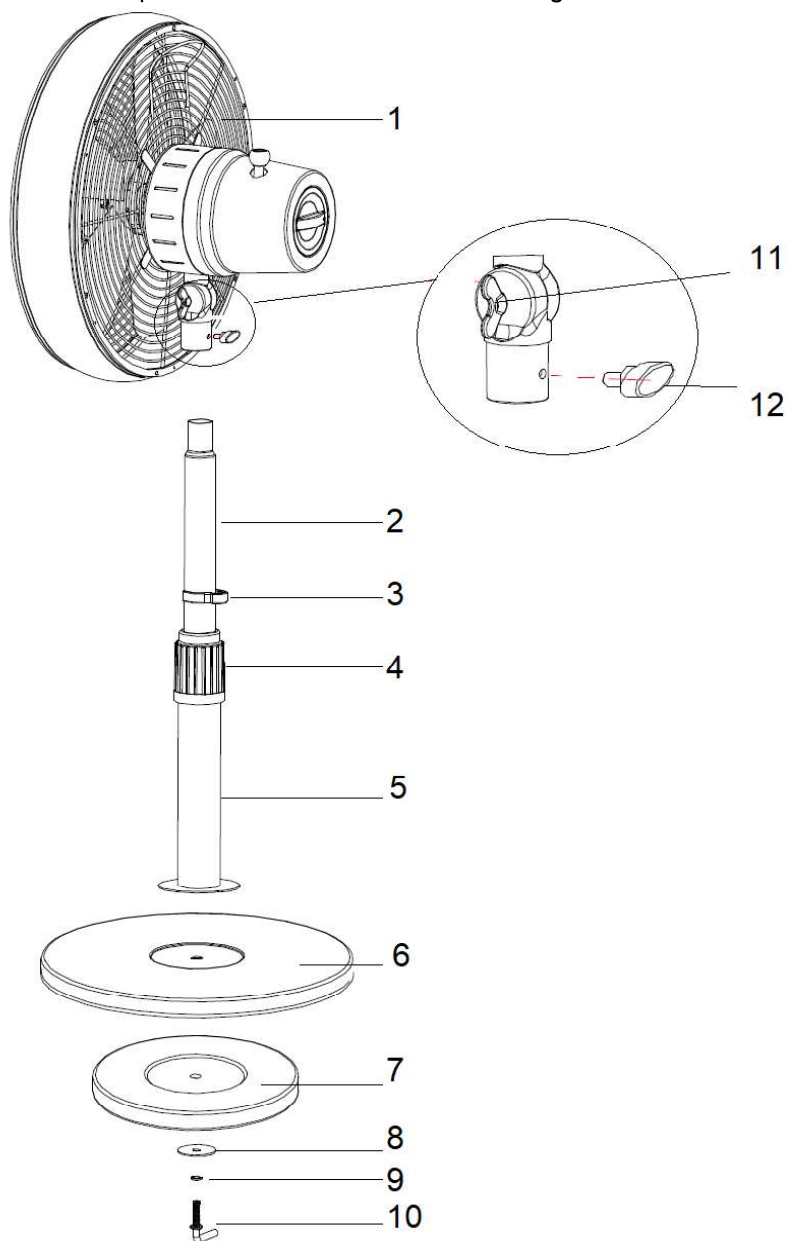

Fig. 1
1. Loosen the base locking screw (10), spring washer (9) and flat washer (8) from the standing pipe. Fig. 1
2. Attach the standing pipe (5) onto the standing base (6). Install the base locking screw (10) through the spring washer (9), flat washer (8), heavy base (7) and then tighten the base locking screw (10) to secure the standing pipe (5). Fig.1
3. Loosen the height adjustment ring (4) and pull out the height adjustment pipe (2) to the desired height. Tighten the height adjustment ring (4) firmly. Fig. 1
4. Place the fan head assembly (1) onto the top of the height adjustment pipe (2). Secure it by tightening the fixed knob (12). Fig. 1
5. Loosen the tilt adjustment knob (11) and adjust the fan head upwards or downwards to your desired tilt angle. Secure the fan head tilt angle by tightening the tilt adjustment knob (11) firmly. Fig. 1